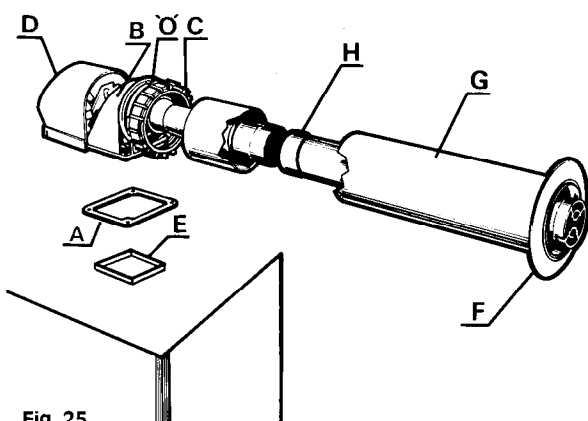
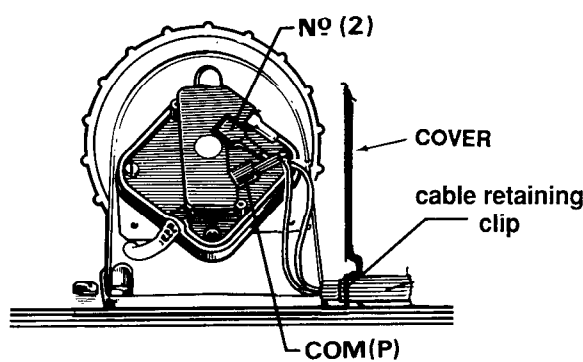

Fig. 25
Fig. 26
- Push spade terminals onto tags COM (P) and No (2) – the common and normally open contacts – polarity immaterial.
- Fit turret cover (D) (fig. 25) ensuring that both the air tube and cables are not trapped, with the **cable retaining clip** positioned as shown, see fig. 26, within the cover.
- N.B.** NC (1) Terminal is not used.